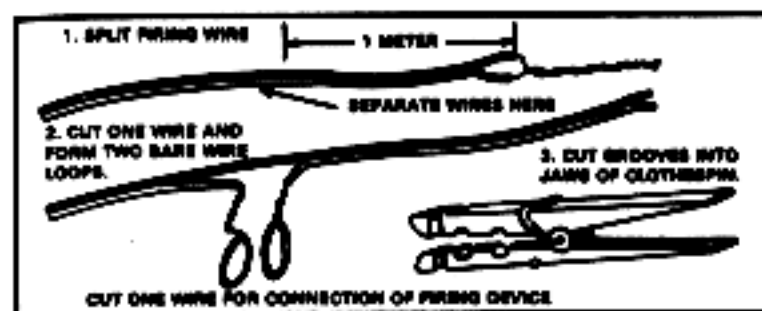

Figure 15-1. Prepare clothespin firing device
- (1) Cut shorting plug from end of firing wire, remove one inch of insulation and twist wires together.
- (2) Run firing wire to tripwire stake in middle of kill zone.
- (3) Attach clothespin to tripwire stake friendly side.
- (4) Prepare firing wire and attach to clothespin (see figure 15-1).